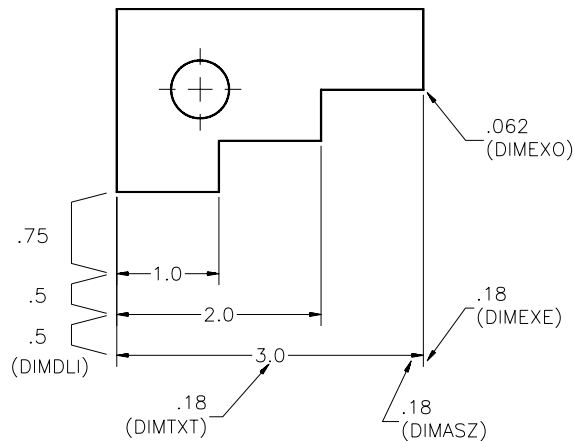

Figure 22-25 Arrow size, text height, and spacing between dimension lines
3. The distance between the first dimension line and the second dimension line must be at least 0.25 units. In CAD drawings, this distance may be 0.25 to 0.5 units (6 to 12 units for metric drawings). If there are more dimension lines (parallel dimensions), the distances between them must be the same (0.25 to 0.5 units). Once you decide on the spacing (0.25 to 0.5), the same spacing should be maintained throughout the drawing. An appropriate snap setting is useful for maintaining this spacing. If you are using baseline dimensioning, you can use AutoCAD's **DIMDLI** variable to set the spacing. You must present the dimensions so that they are not crowded, especially when there is not much space (Figure 22-25).